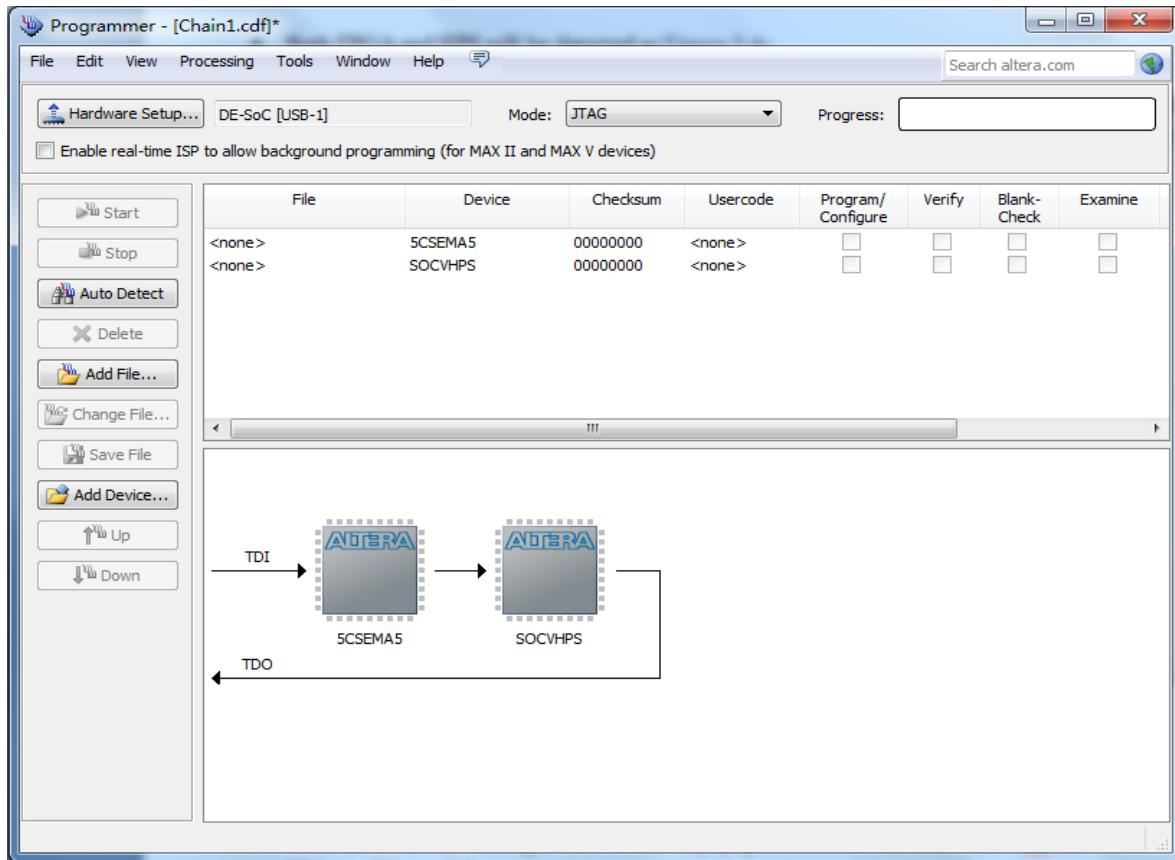

Figure 3-5 FPGA JTAG Programming Steps 3
- Both FPGA and HPS will be detected as Figure 3-5